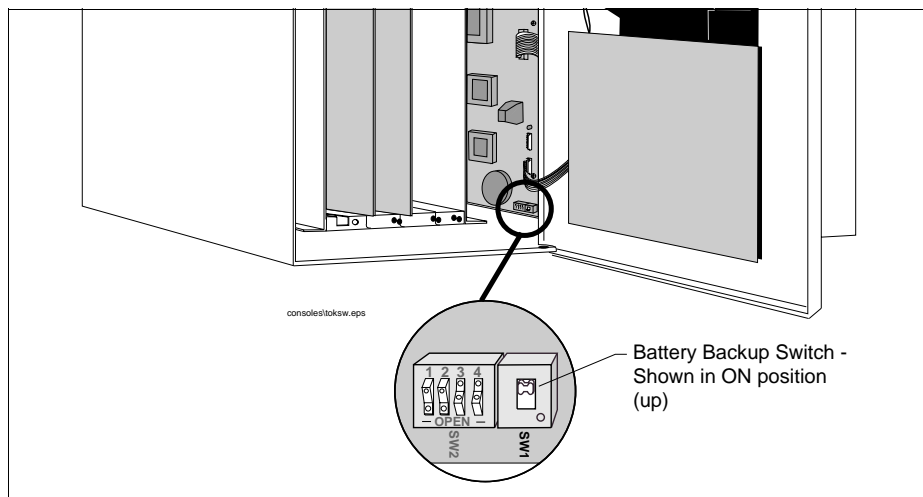

Figure 1. ECPU Board Battery Switch (SW1) Location
3. To retain current programming, be sure that the ECPU board battery switch is set to “ON” (see Figure 1 on page 4, the “up” position). To avoid electrical shock or damage to components if accessing the battery switch, avoid touching any circuit components with your hand, any conductive tool and metallic jewelry.